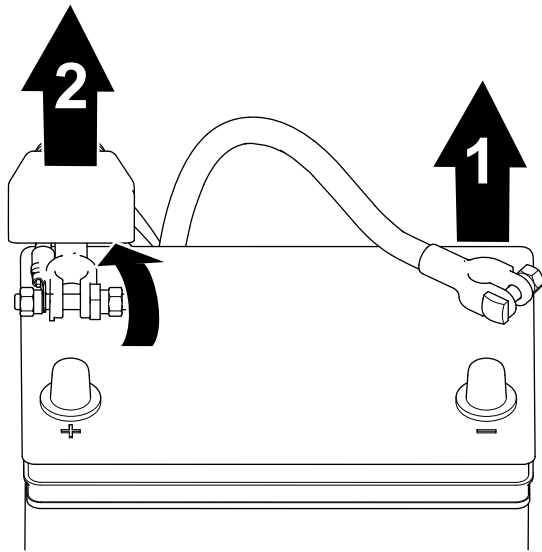

Figure 47
1. Remove the negative battery cable from the battery post (Figure 47).
2. Lift the insulator and remove the positive battery cable from the battery post (Figure 47).